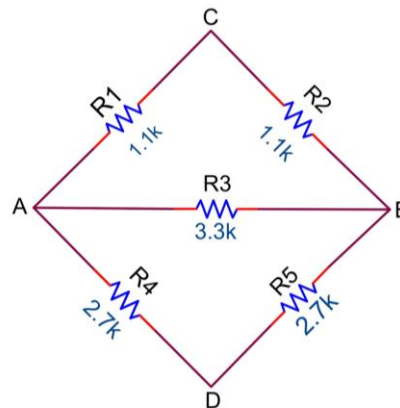

Figure 3.1
1. For the circuit of Figure 3.1 calculate the resistance between nodes: